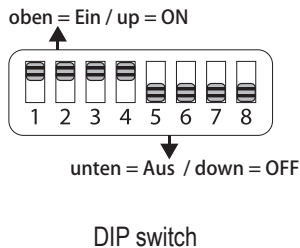

fig. 4
6. **fig. 4:** Motion sensor setting via dip switch. Settings see page 11.